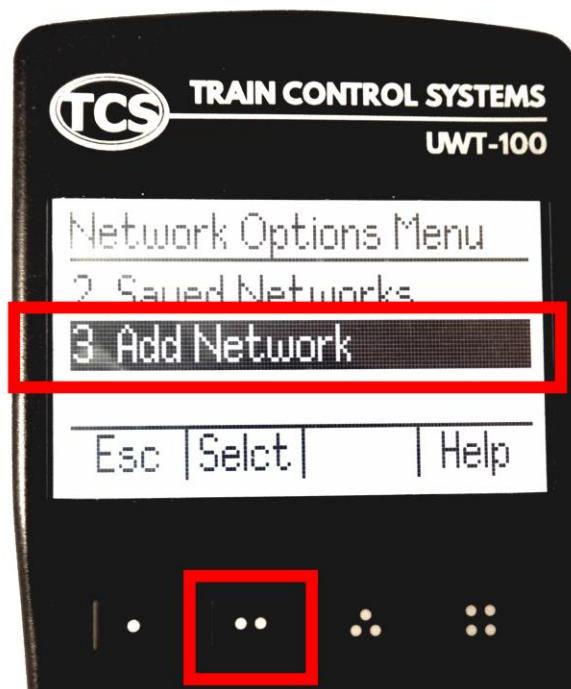

Figure 22 Select the Add Network option
- (3) Select option 3, Add Network as Figure 22